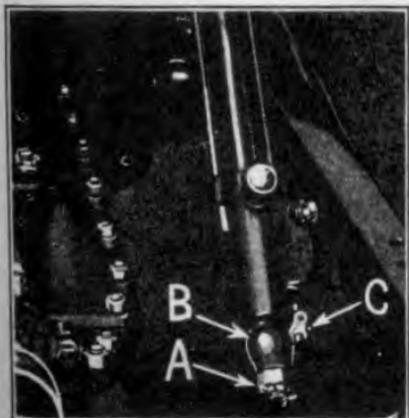

Fig. 33
- (a) Run off nut on end of steering post (See "A" Fig. 33) and remove ball arm "B" from end of post by tapping it with a brass or lead hammer. The steering gear ball arm key can then be removed by tapping it out of keyway with a hammer and drift.
- (e) Drive out the lead rod lever pin (See "C" Fig. 33), and slip lever and bracket off end of steering gear shaft (See "A" Fig. 36).